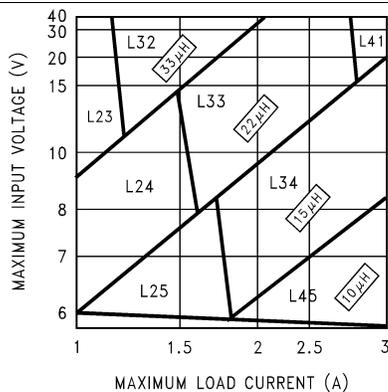
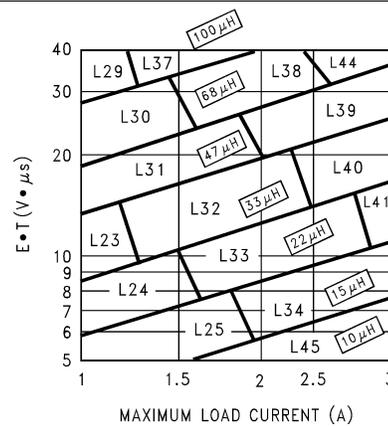

Figure 14. LM2673-3.3
Figure 17. LM2673-ADJ
Step 3: Determine the inductor required by using one of the four nomographs, Figure 14 through Figure 17. Table 3 provides a specific manufacturer and part number for the inductor.
Step 5: Determine an input capacitor from Table 5 and Table 8 for fixed output voltage applications. Use Table 1 or Table 2 to find the specific capacitor type. For adjustable output circuits select a capacitor from Table 1 or Table 2 with a sufficient working voltage (WV) rating greater than V_{IN} maximum, and an RMS current rating greater than one-half the maximum load current (2 or more capacitors in parallel may be required).
Step 3: Use the nomograph for the 3.3-V device, Figure 14. The intersection of the 16-V horizontal line (V_{IN} max) and the 2.5-A vertical line (I_{LOAD} max) indicates that L33, a 22- μH inductor, is required.